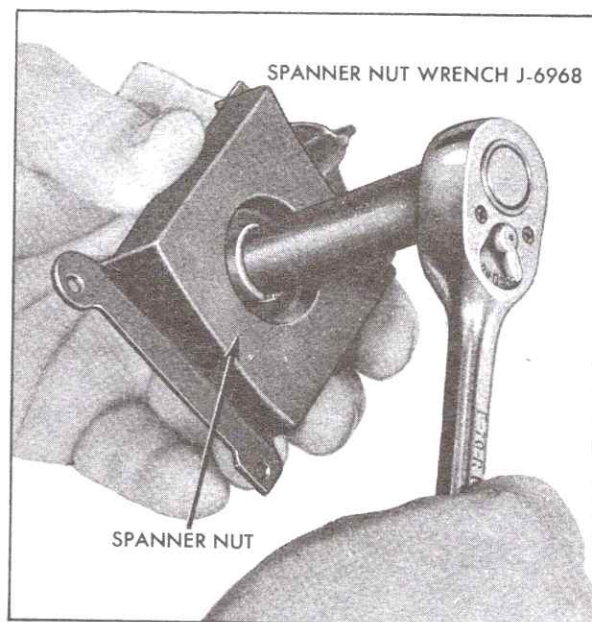

Fig. 12-42 Removing Spanner Nut
5. Remove spanner nut securing control switch to backplate using Spanner Nut Wrench, J-6968, Fig. 12-42, and remove control switch from backplate.
1. Install control switch on backplate, aligning notch in backplate with tang on control switch. Secure with spanner nut using Spanner Nut Wrench, J-6968, Fig. 12-42.